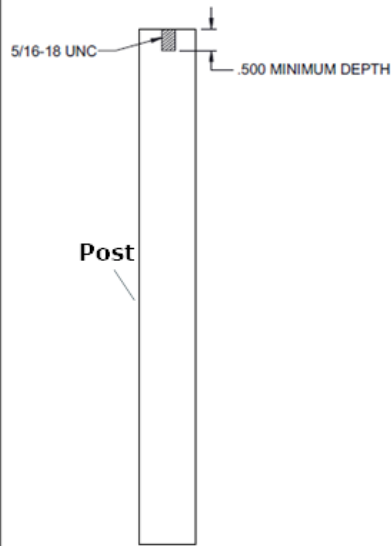

Figure 1
1. Thread top of post approx. 1/2" (depth) using UNC Tap. **(See Figure 1)**
3. Attach glass into glazing then drop glass & glazing into post. **(See Figure 1)**
1. Determine location & identify the center of the post. **(See Figure 1)**
1. Determine location & identify the center of the post. Drill four holes per diagram. **(See Figure 1)**